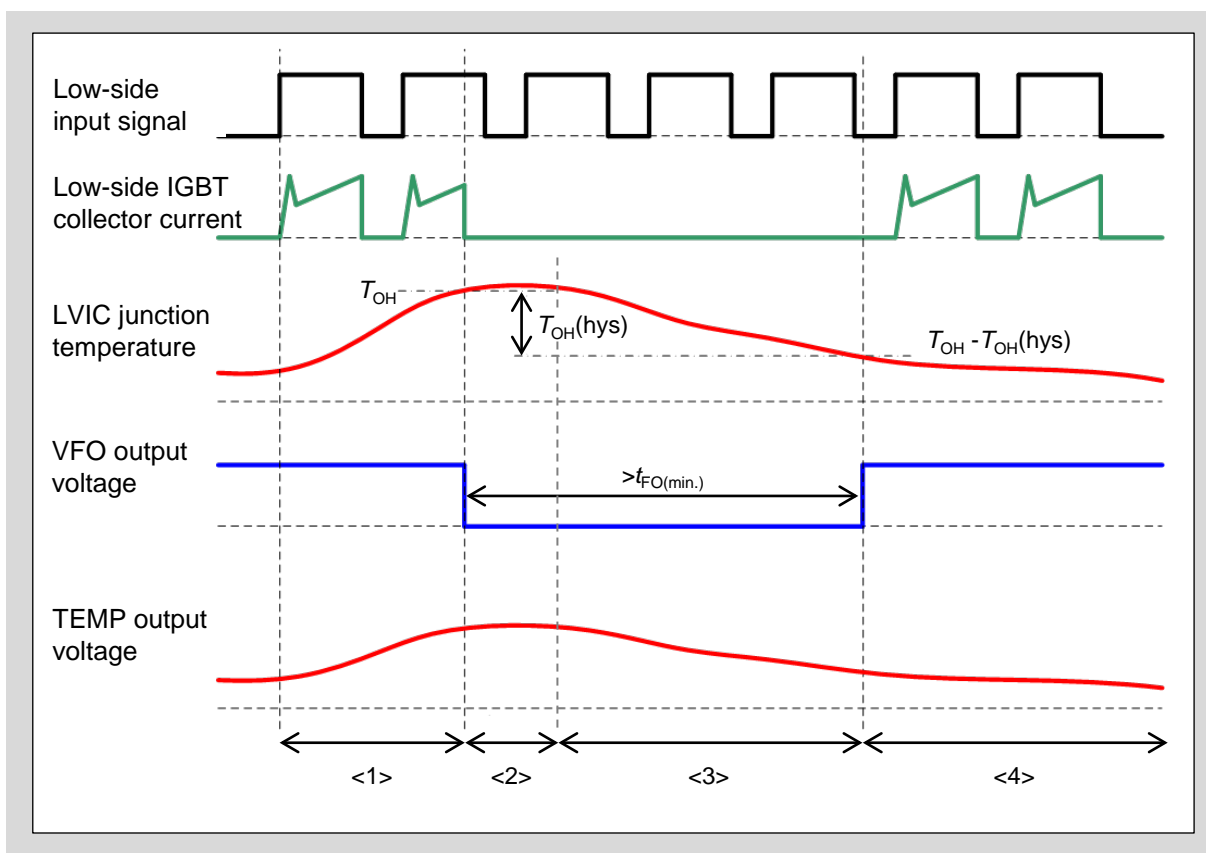

Fig. 3-27 OH protection operation sequence
- As shown in Fig.3-27, the product shuts down all low side IGBTs when the LVIC temperature exceeds  $T_{OH}$ . The fault status is reset when the LVIC temperature drops below  $T_{OH} - T_{OH(hys)}$ .